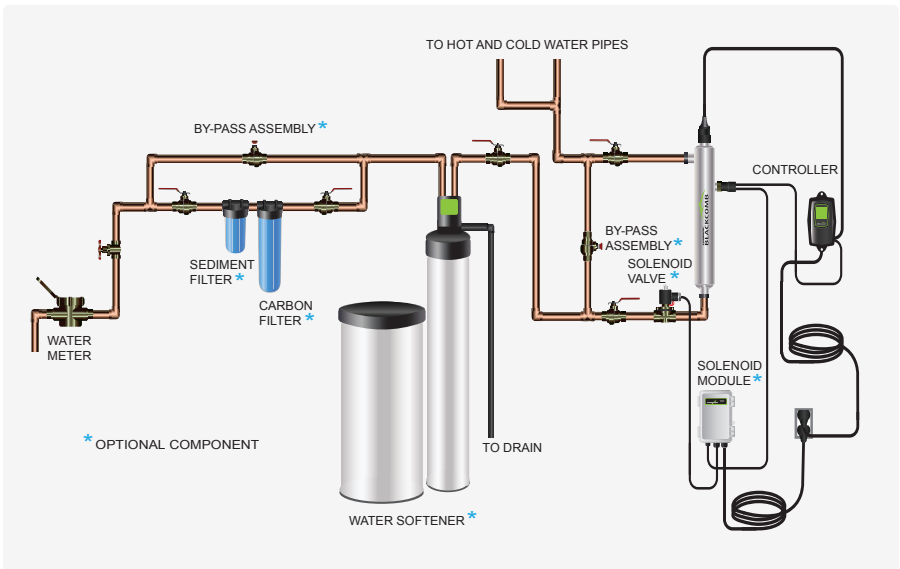

Figure 1. Recommended POE Installation Location
For Point of Entry (POE) systems, choose a location where the main cold water line is accessible. The system must be installed after other water treatment equipment (softener or filters), but before any branches (See Figure 1). For Point of Use (POU) systems, install the unit just before the faucet. LUMINOR recommends that a 5 micron filter be installed **before** the UV system for a final polishing step before the water is disinfected.
Step 10: Mount the controller to the wall so it is above or beside the reactor to ensure that no moisture can deposit on any of the connections (see Figure 1). Always mount the controller vertically. For monitored systems, insert the sensor connector into the IEP port located on the right side of the controller (Figure 6). For the sensor to be recognized by the controller, the controller power must be plugged in last. **Do not plug the controller power cord in before the last step.**